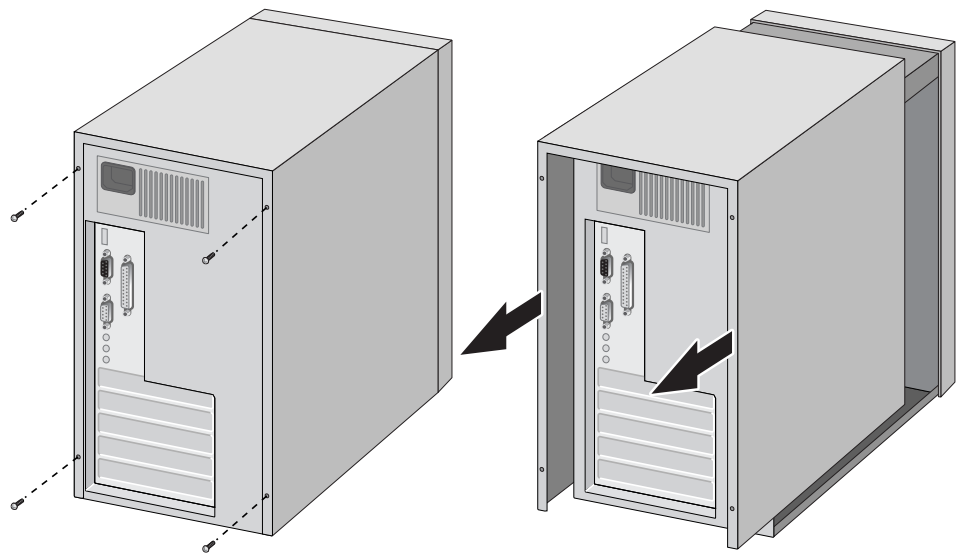

Figure 7. Removing the PC Cover
2. Remove the system cover and select any appropriate empty PCI slot. See Figure 7 on page 30.